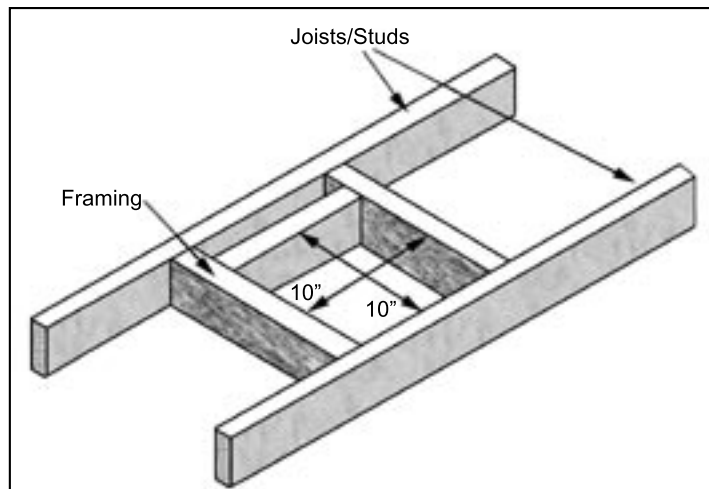
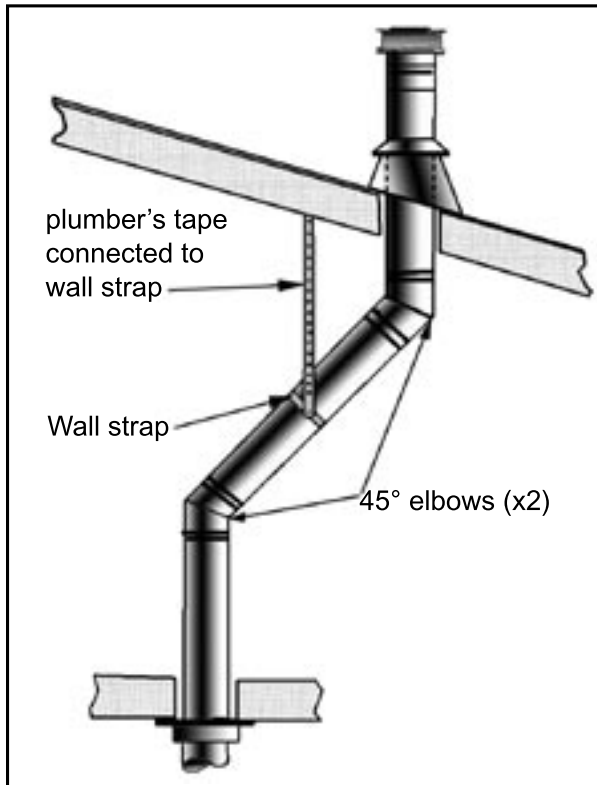
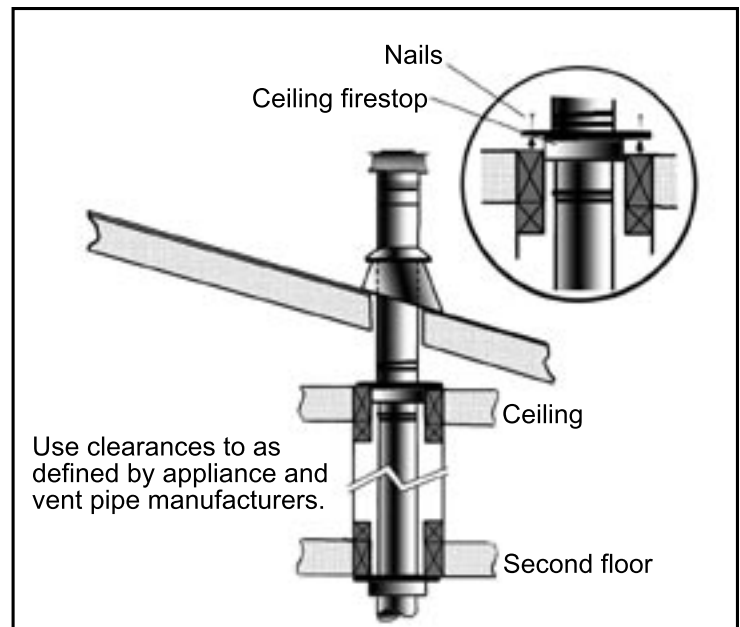

Figure 22. Vent Framing Through Wall/Ceiling
Figure 28: Use of Wall Straps.
Figure 29: Multi-Story Vent Pipe Installation.
A 10" (254 mm) x 10" (254 mm) frame (see Figure 22) will assure the proper support and spacing for the vent pipe as it passes through the wall. Installations in Canada require that a wall thimble be used for passing through walls and ceilings. All sealing and vapour barriers must comply with local building codes.
Step 3. With the pipe in the correct position and attached to the fireplace, mark the wall for a 10 inches (25.4 cm) x 10 inches (25.4 cm) square hole (see Figure 22). The center of the hole should match the center line of the horizontal pipe. Cut and frame the hole in the exterior wall where the vent will be terminated. If the wall being penetrated is made of a non-combustible material (i.e. masonry or concrete) a 7 inches (17.8 cm) hole is acceptable.
Step 3. To install the Round Support Box/Wall Thimble in a flat ceiling, cut a 10 inch (25.4 cm) square hole in the ceiling, centered in the hole drilled in Step 2. Frame the hole as shown in Figure 22.
- (1) If an offset is necessary in the attic to avoid obstructions, it is important to support the vent pipe every 3 feet (914 mm), to avoid excessive stress on the elbows, and possible separation. Wall straps are available for this purpose (see Figure 28).
- (2) When ever possible, use 45° degree elbows instead of 90° degree elbows. The 45° degree elbow offers less restriction to the flow of flue gases and intake air.
- (3) For multi story installations; a ceiling firestop is required at the second floor, and any subsequent floors (see Figure 29). The opening should be framed to 10" (254 mm) x 10" (254 mm) inside dimensions, in the same manner as shown in Figure 22.